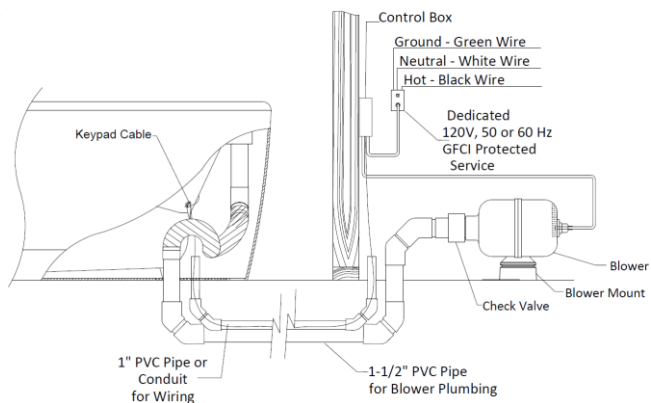

Figure 8- Below Floor Installation
**Note:** A 15 foot extension cable set can be purchased from your Jason supplier, if needed. To ensure proper functioning of the system, avoid remote mounting in a location which requires more than six (6) piping direction changes. A 90° direction change should be made up of two 45° elbows for maximum efficiency.
6. Extend piping stub-out through the floor as illustrated in **Figure 8**. Piping between the remote blower location and the bath can be insulated using a minimum of ½" [13mm] thick insulation. Attach new piping to the elbow of the existing piping.